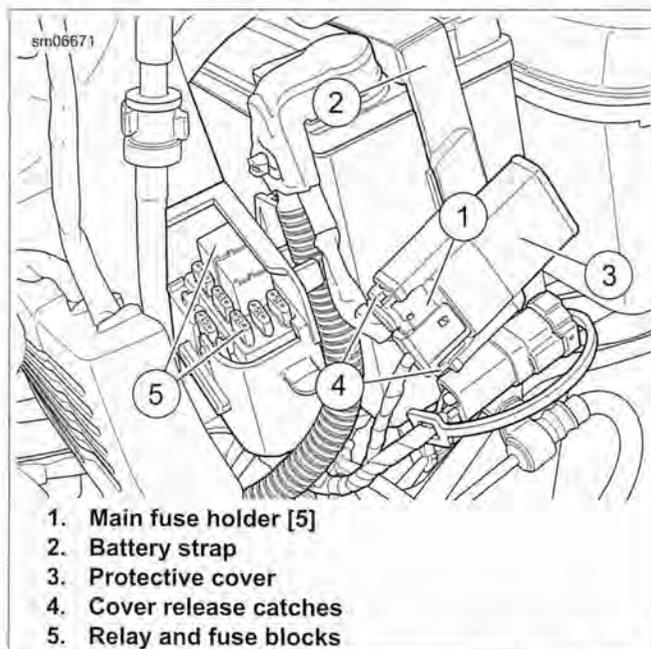

Figure 6-134. 30 A Main Fuse Location: All Models
2. See Figure 6-134. Squeeze cover release latches (4) together and pull fuse holder [5] (1) from protective cover (3).
3. See Figure 6-134. While holding protective cover (3) in place, push fuse holder [5] (1) into cover until cover release latches (4) snap into place.